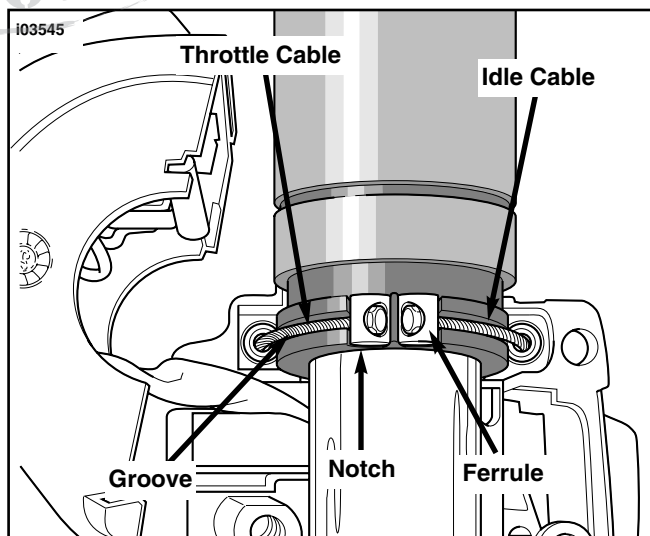

Figure 5. Remove Throttle and Idle Control Cables
15. See Figure 5. Remove the brass ferrules from the notches on the inboard side of the throttle control grip, then remove ferrules from the cable end fittings. Save ferrules for reinstallation.
24. Refer to Figure 5. Position the new lower switch housing beneath the throttle control grip. Install the brass ferrules onto the cables so that the end fittings seat in the ferrule recess. Seat the ferrules in their respective notches on the throttle control grip. Verify that the cables are captured in the grooves molded into the grip.